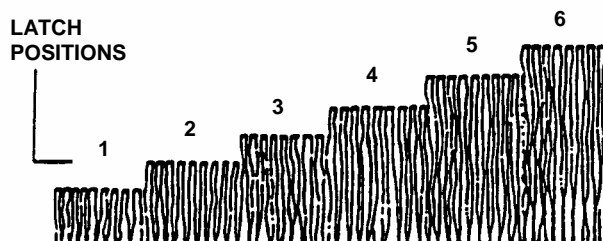

FIGURE 2.8
2. Set all wheels at the same cutting height. The highest cutting position is Notch 6. The lowest cutting position is Notch 1. See Figure 2.8.